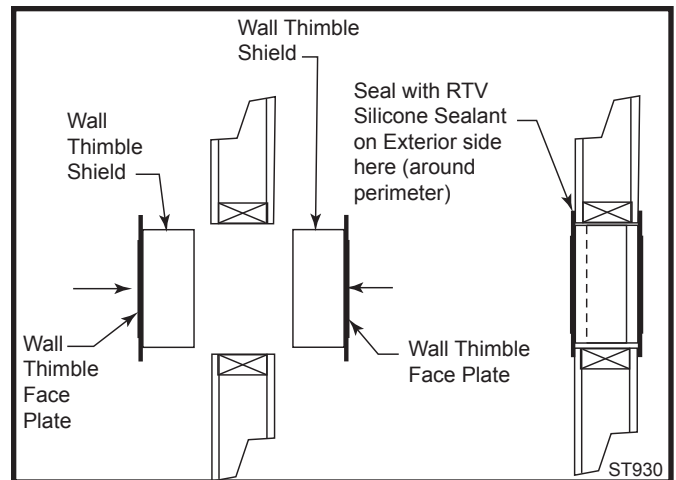

**Fig. 39** Below grade installation.
Consider locating the appliance in a place where there will be no interference with wall studs, electrical wiring, conduit, plumbing pipe or other obstructions. The termination should be located at least 12" (305 mm) (Fig. 39) above grade, remain above the snow line in geographical areas that accumulate snow and be away from traffic areas such as walkways if it is less than 7' (2.1 m) high. Refer to Pages 11, 12, Figures 11, 12 for more detail.
7. If a wall thimble is used, push the pipe (which is connected to the appliance) carefully through the wall thimble until the DIRECT-TEMP pipe becomes fully engaged with the horizontal termination. If no thimble is used, place the Trim Plate (TP) on the DIRECT-TEMP pipe. Carefully push the DIRECT-TEMP pipe through the wall until fully engaged with the horizontal termination. Secure the trim plate to the wall.
**NOTE:** If a vertical rise is necessary on the exterior side of the building, a 14" (356 mm) and 36" (914 mm) Snorkel Termination (ST) is available. Follow the installation procedures for horizontal terminations. If the snorkel termination is to be located below grade, a window well is recommended with adequate and proper drainage as per local codes. Leave 2" (51 mm) clearance below snorkel to prevent water from entering the snorkel termination. Do not enclose the snorkel within a wall or other type of enclosure and **do not back fill**. Ensure that grade level slopes away from the building. (Fig. 39)